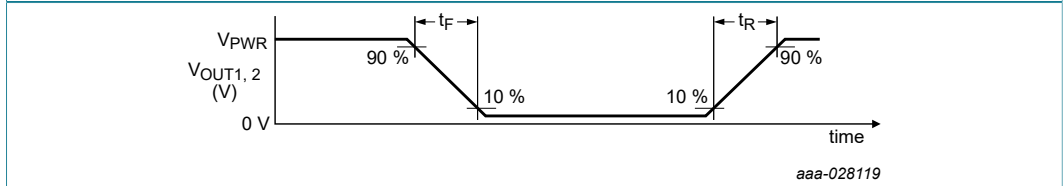

Figure 7. Output switching time
- [8] Rise time is from the 10 % to the 90 % level and fall time is from the 90 % to the 10 % level of the output signal with $V_{PWR} = 14\text{ V}$, $R_{LOAD} = 3.0\ \Omega$. See Figure 7.